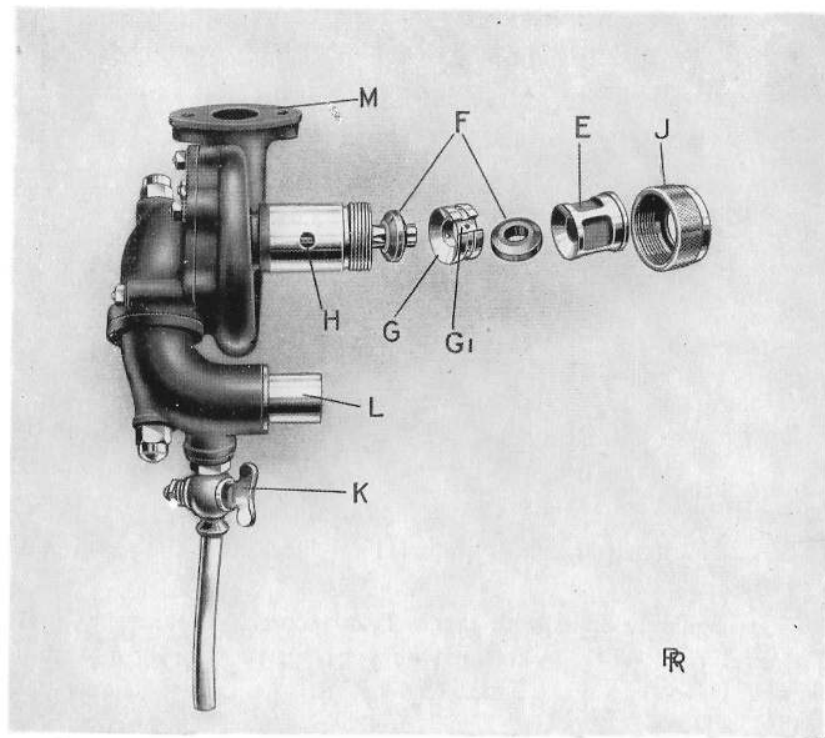

FIG. 35. WATER PUMP WITH GLAND DISMANTLED.
**Re-packing Pump Gland.** In Fig. 35 the pump is shown removed from the engine, with the gland dismantled for re-packing.
**Frost.** When there is any likelihood of the car being exposed to a temperature below freezing point, the cooling system should be drained by opening the drain tap **K** (Fig. 35), situated on the pump inlet,